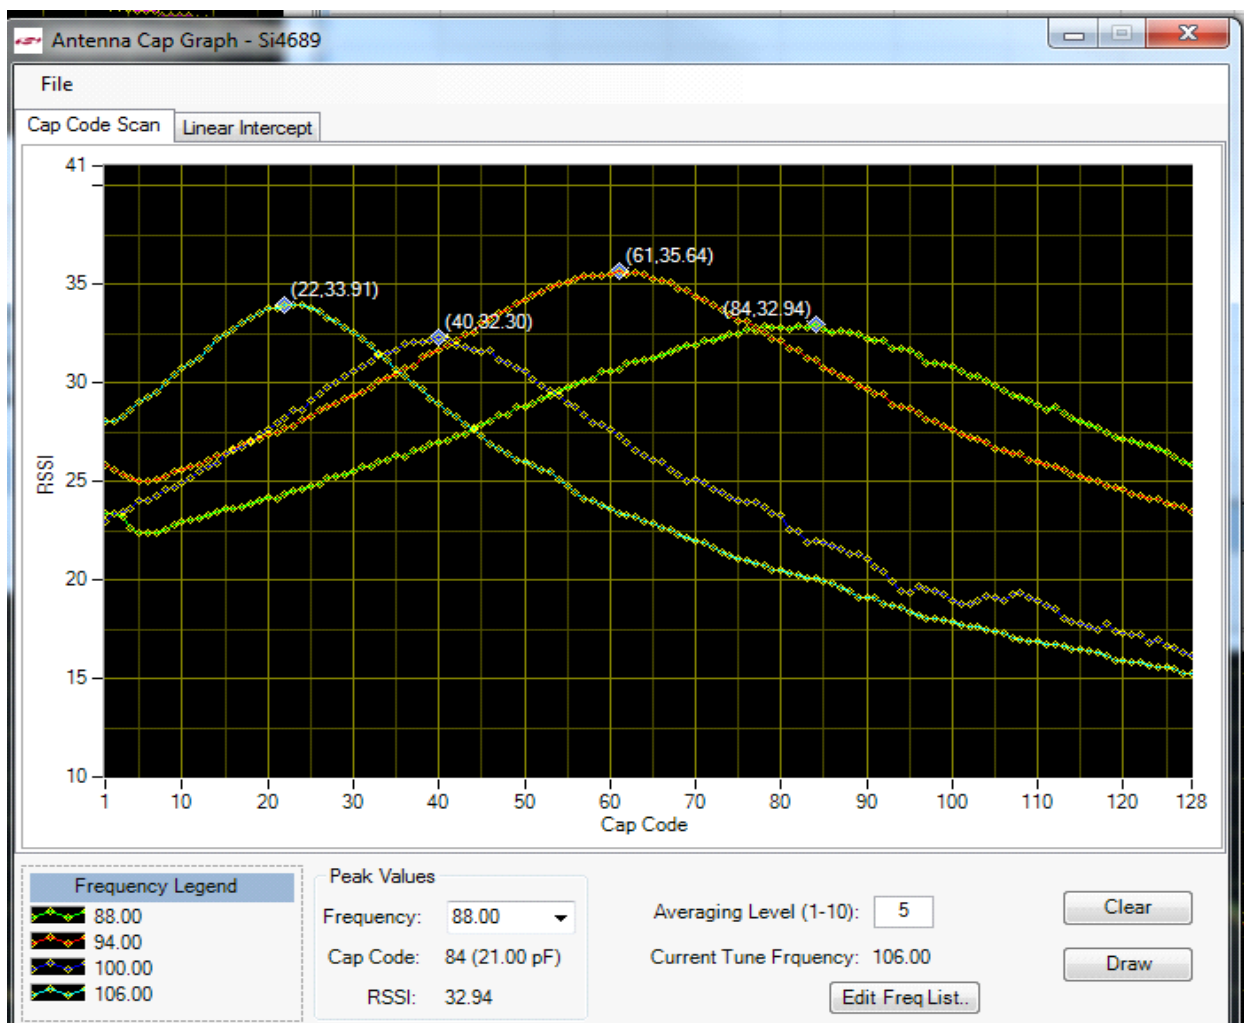

Figure 16. GUI Antenna Cap Graph for FM
Silicon Labs recommends using its EVB and the GUI to optimize the front end for a given antenna type and the cable length. The GUI has an antenna graph function, shown in Figure 16, which exercises the internal varactor capacitor across its range (1–128 counts) for finding the capacitance required to form resonance at a given frequency.
1. Initially use the Silicon Labs-recommended values for C1 (33pF) and L1 (56nH) shown in Figure 16.